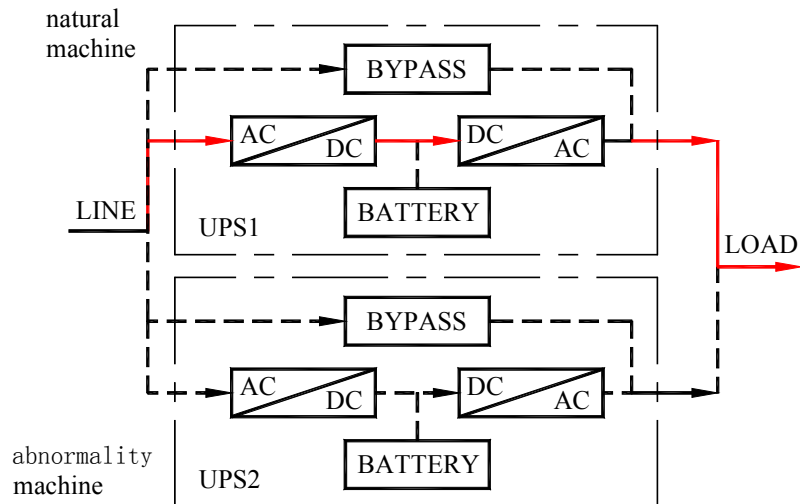

Figure 2-13 Working Mode in case of one machine abnormality
4. Working mode in case of one machine of the system is abnormal (real lines refer to UPS's power passage), referred to figure 2-13. The abnormal machine has no output, while the normal one supply the power.